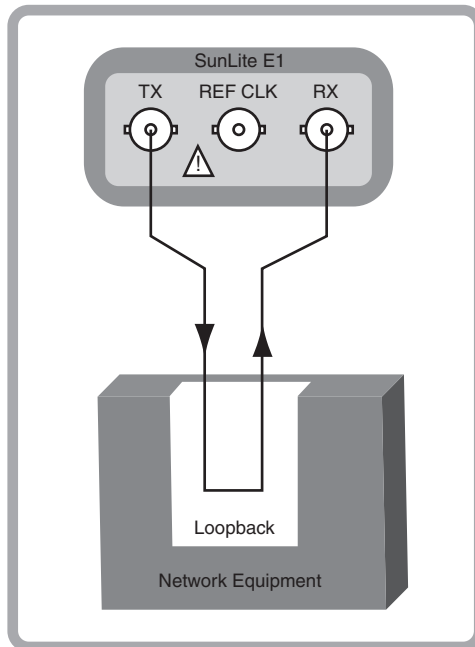

Figure 64 Propagation Delay
2. Connect to the circuit as shown in Figure 64.